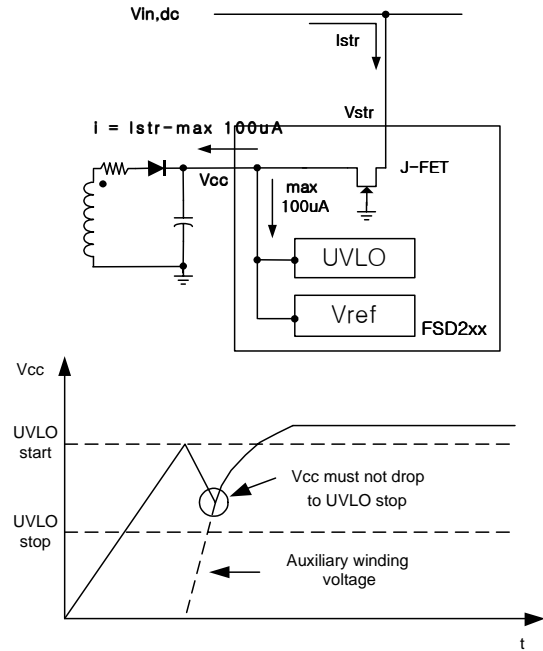

Figure 7. Charging the Vcc capacitor through Vstr
**1. Startup :** At startup, the internal high voltage current source supplies the internal bias and charges the external Vcc capacitor as shown in figure 7. In the case of the FSD210B, when Vcc reaches 8.7V the device starts switching and the internal high voltage current source is disabled (see figure 1). The device continues to switch provided that Vcc does not drop below 6.7V. For FSD210B, after startup, the bias is supplied from the auxiliary transformer winding. In the case of FSD200B, Vcc is continuously supplied from the external high voltage source and Vcc is regulated to 7V by an internal high voltage regulator (HVReg), thus eliminating the need for an auxiliary winding (see figure 2).